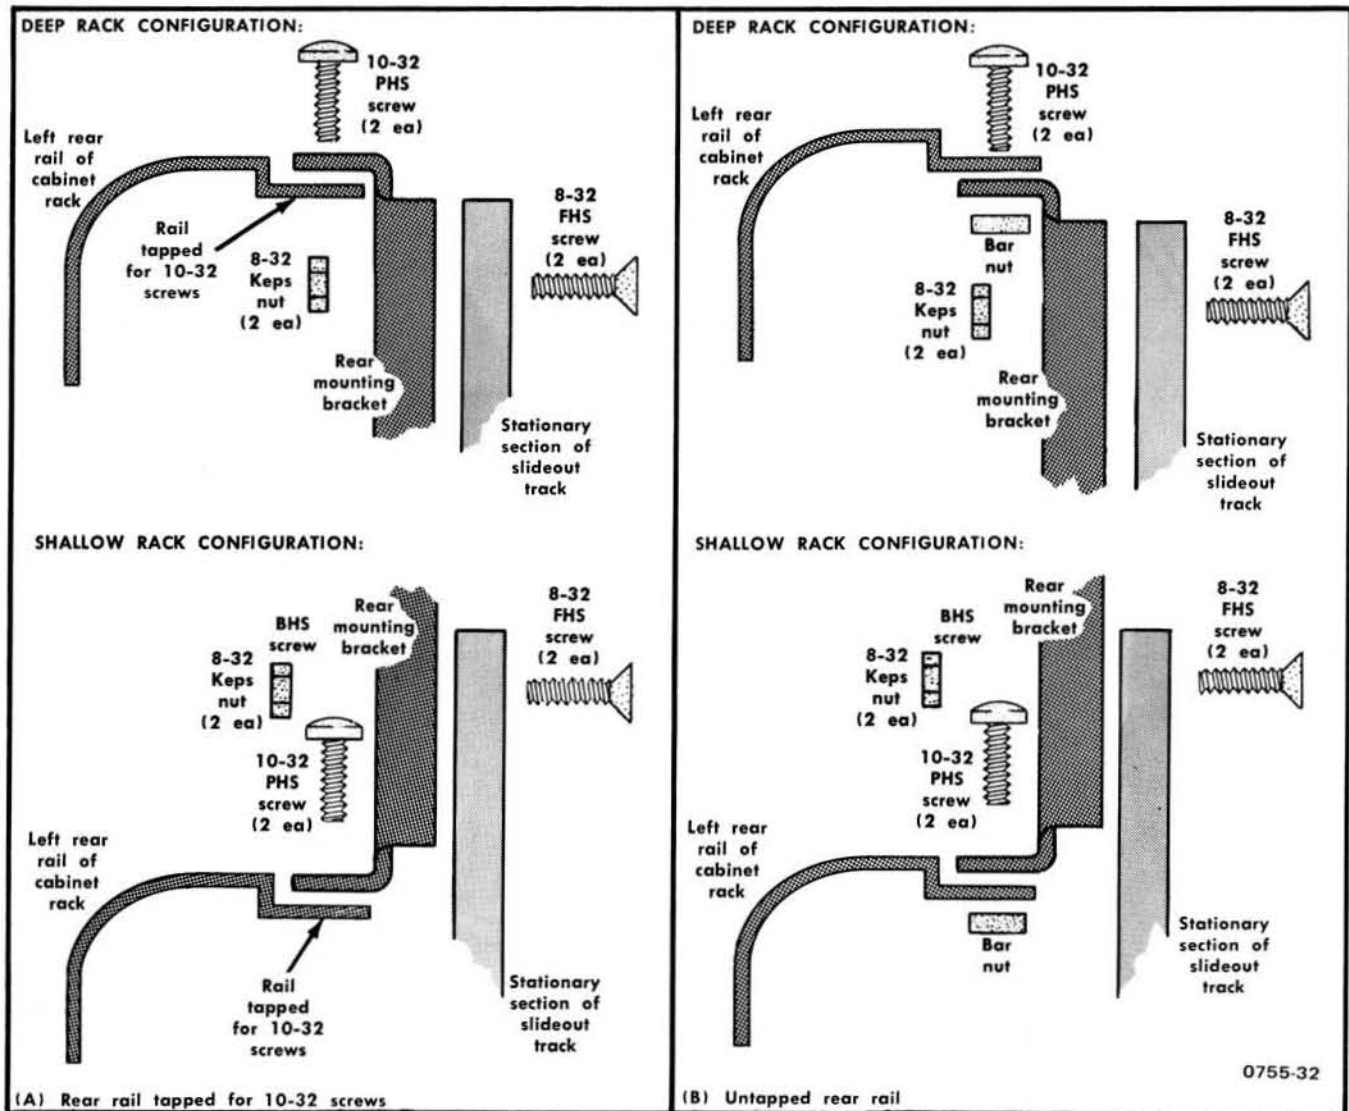

Figure 2-19. Alternative method of installing the instrument using rear support brackets.
An alternative method of supporting the rear of the instrument is shown in Figure 2-19. The rear support brackets supplied with the instrument allow it to be mounted in a rack which has a spacing between the front and rear rails of 11 to 24 inches. Figure 2-19(A) illustrates the mounting method if the rear rails are tapped for 10-32 screws, and Figure 2-19(B) illustrates the mounting method if the rear rails are not tapped for 10-32 screws. The rear support kit is not used for this installation.